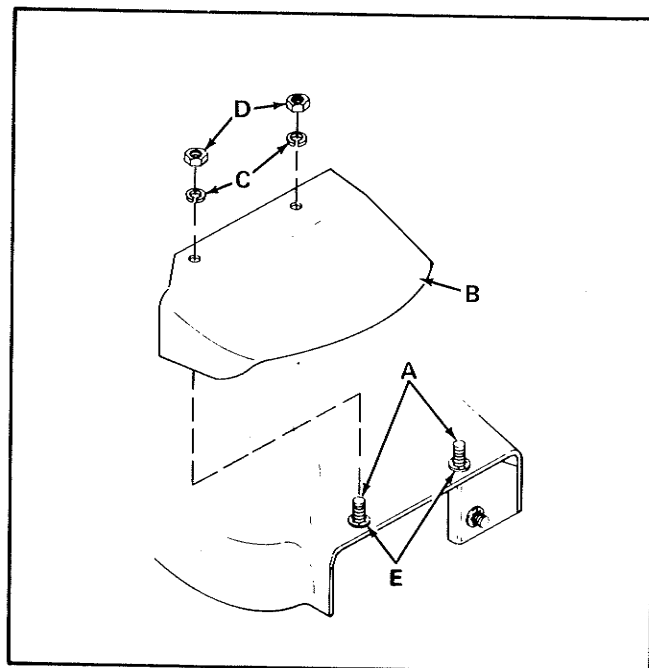

**Figure 9. Install Baffle**
- Place discharge baffle (B, figure 9) in mower as shown. Use a self-tapping screw (J) to secure midpoint of baffle.
- Use carriage bolt (I), washer (D), lockwasher (E) and nut (F) to secure inner end of baffle.
- Use carriage bolt (A), washer (N), lockwasher (M) and nut (L) to secure outer end of baffle. Install carriage bolt from the outside as shown.